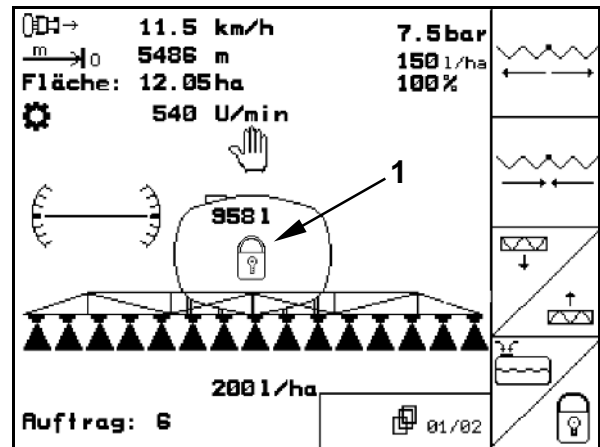

Fig. 123
- In the Menu operation the closed lock symbol appears (Fig. 123/1). When the swing compensation is locked the sprayer booms cannot freely swing against the boom carrier.